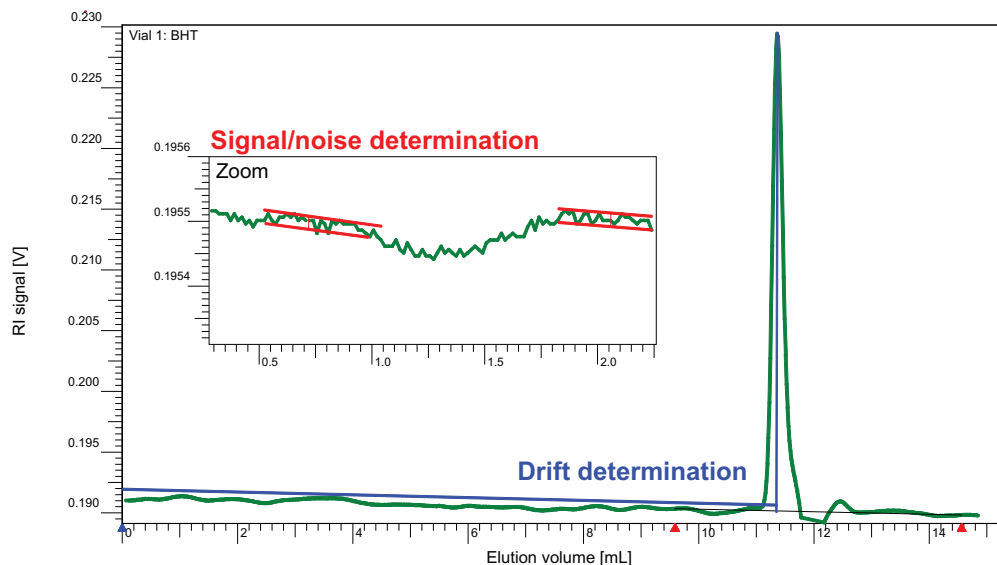

Figure 3. Determination of the drift ratio and the signal-to-noise ratio. Please note that the blue line has been shifted for better visibility.
- 1 Print the raw data and draw a line from the injection point to the elution volume of the peak maximum, as shown in **Figure 3**.
- 1 Zoom into the detector signal in the raw data window as shown in **Figure 3**, print it, and draw two parallel lines around the signal. For this test only, the short time noise is relevant; long-term signal instabilities should not be considered.